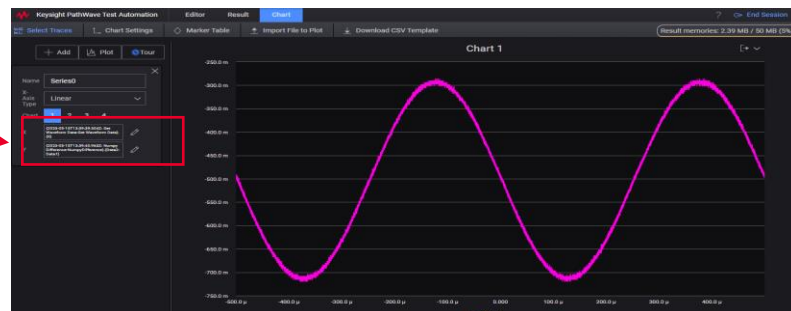

Figure 5. Viewing results
At the “Numpy Difference” step, change the “Result Name” and “Column Name” to the respective “Get Waveform Data” steps’ step name and choose “Data” as the column name. Next, run the test plan and plot Data2-Data1. This effectively subtracts “Get Waveform Data (1)” containing the Channel 2 waveform data by “Get Waveform Data” containing the Channel 1 waveform data. If needed, you can also apply additional data manipulation using the built-in mathematical operations inside the X and Y axis text boxes as shown in Figure 5.